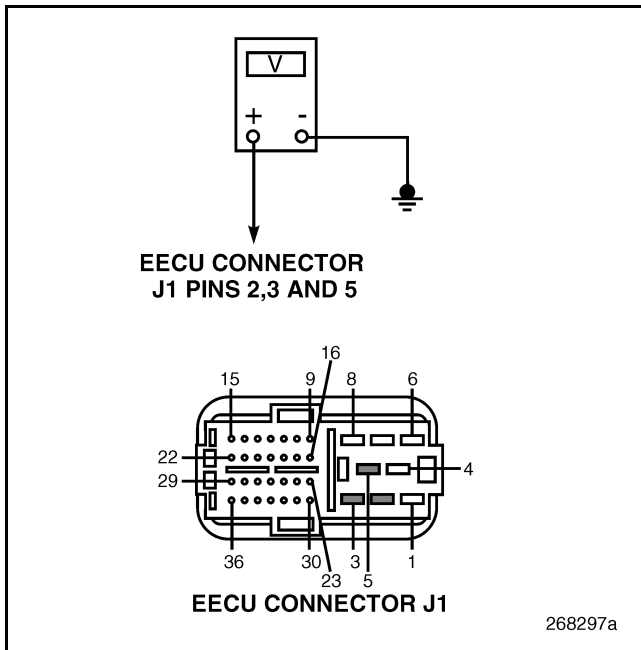

Figure 631
4. Measure the voltage between EECU connector J1 pins 2, 3 and 5 versus a good ground (see Figure 631).